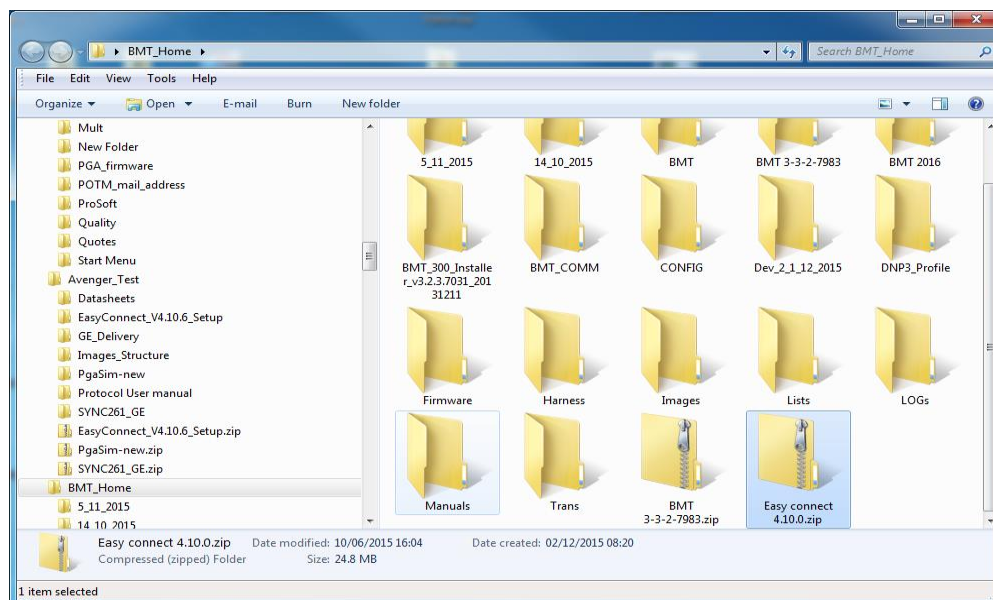

Figure E-3: EasyConnect 4.10.0.zip file
1. Copy the **EasyConnect.4.10.0 zip** file to a local PC as shown in Figure E-3.